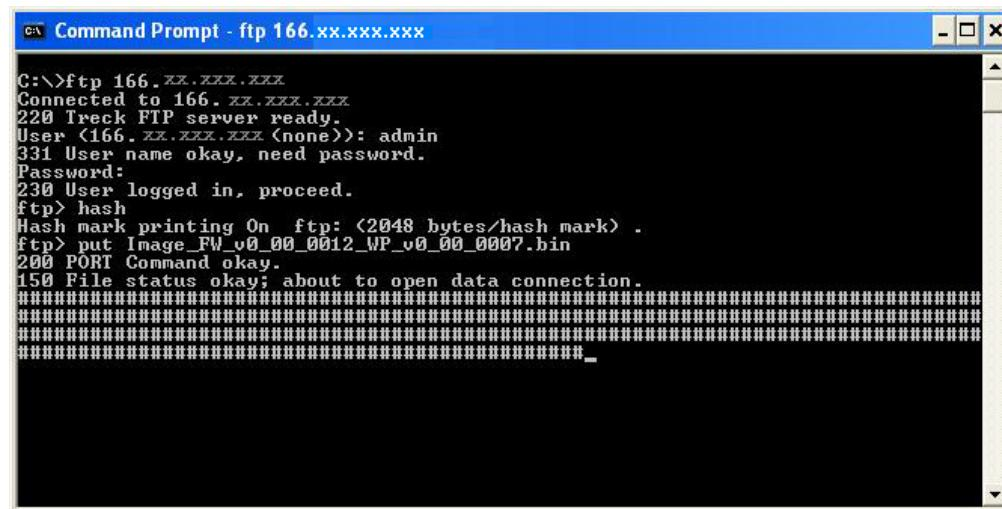

Figure 98. Launching the Upgrade
3. Open an MS-DOS command line window and connect to the communications module in FTP mode (see Figure 98):
4. At the **ftp>** command line, use the **put** command with the **Image<xxx>.bin** file to launch the upgrade (see Figure 98).